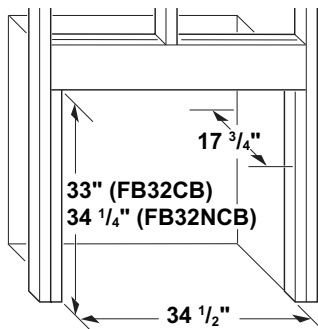
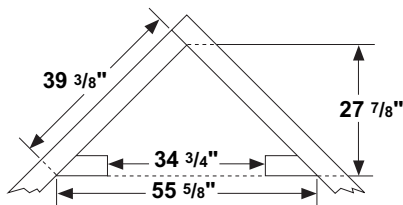

Figure 18 - Rough Opening for Installing in Wall
Figure 19 - Rough Opening for Installing in Corner
1. Frame in rough opening. Use dimensions shown in Figure 18, page 13 for the rough opening. If installing in a corner, use dimensions shown in Figure 19, page 13 for the rough opening. The height is 33" (FB32CB) or 34 1/4" (FB32NCB), which is the same as the wall opening in Figure 18, page 13.